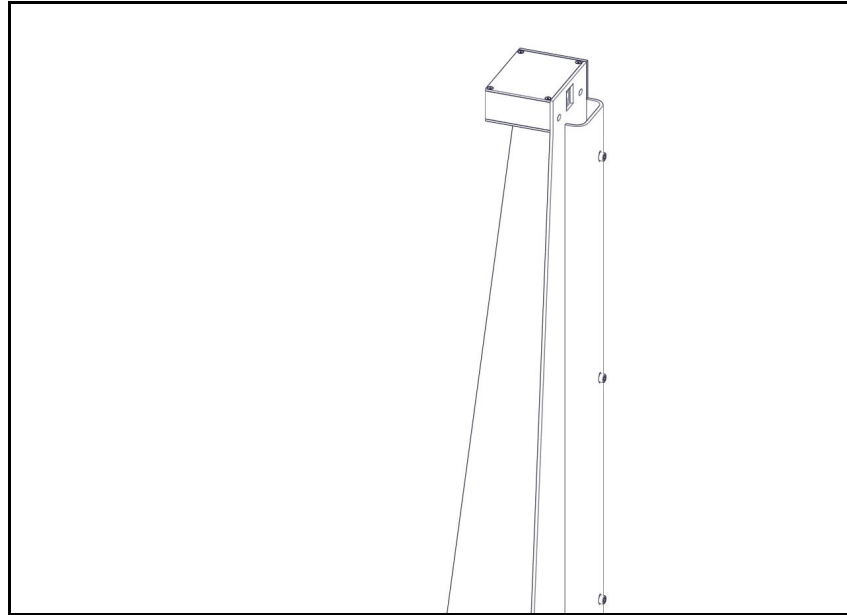

Figure 7
5. Place the height sensor, labeled “Top,” at the top of the corner where the side panels meet (see Figure 7), and align the screw holes.